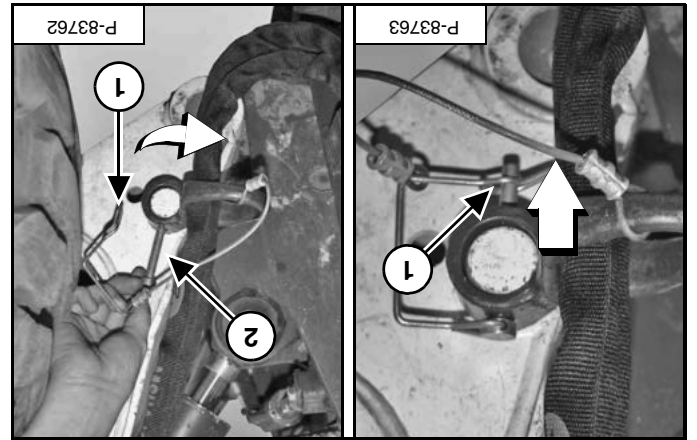

Figure 65
Remove lock pin (item 2) [Figure 65] from the removable hose guide and mounting post.